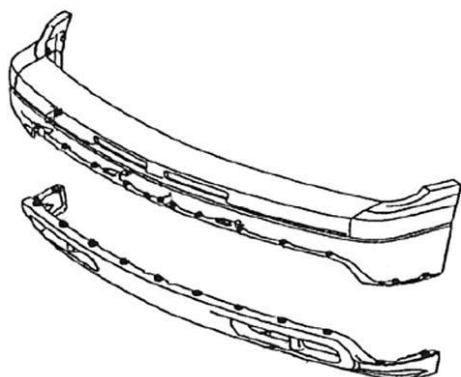

Fig 3
- Select the driver side Mounting Bracket. Hold the Bracket up in the mounting location and determine area to cut from plastic bumper, **(Figure 2)**. **NOTE:** It may be easier-safer to remove the lower bumper cover and move it to a clean, stable work surface for cutting, **(Figure 3)**. Cut out openings for brackets. **IMPORTANT:** Remove only enough material to clear the Mounting Brackets.